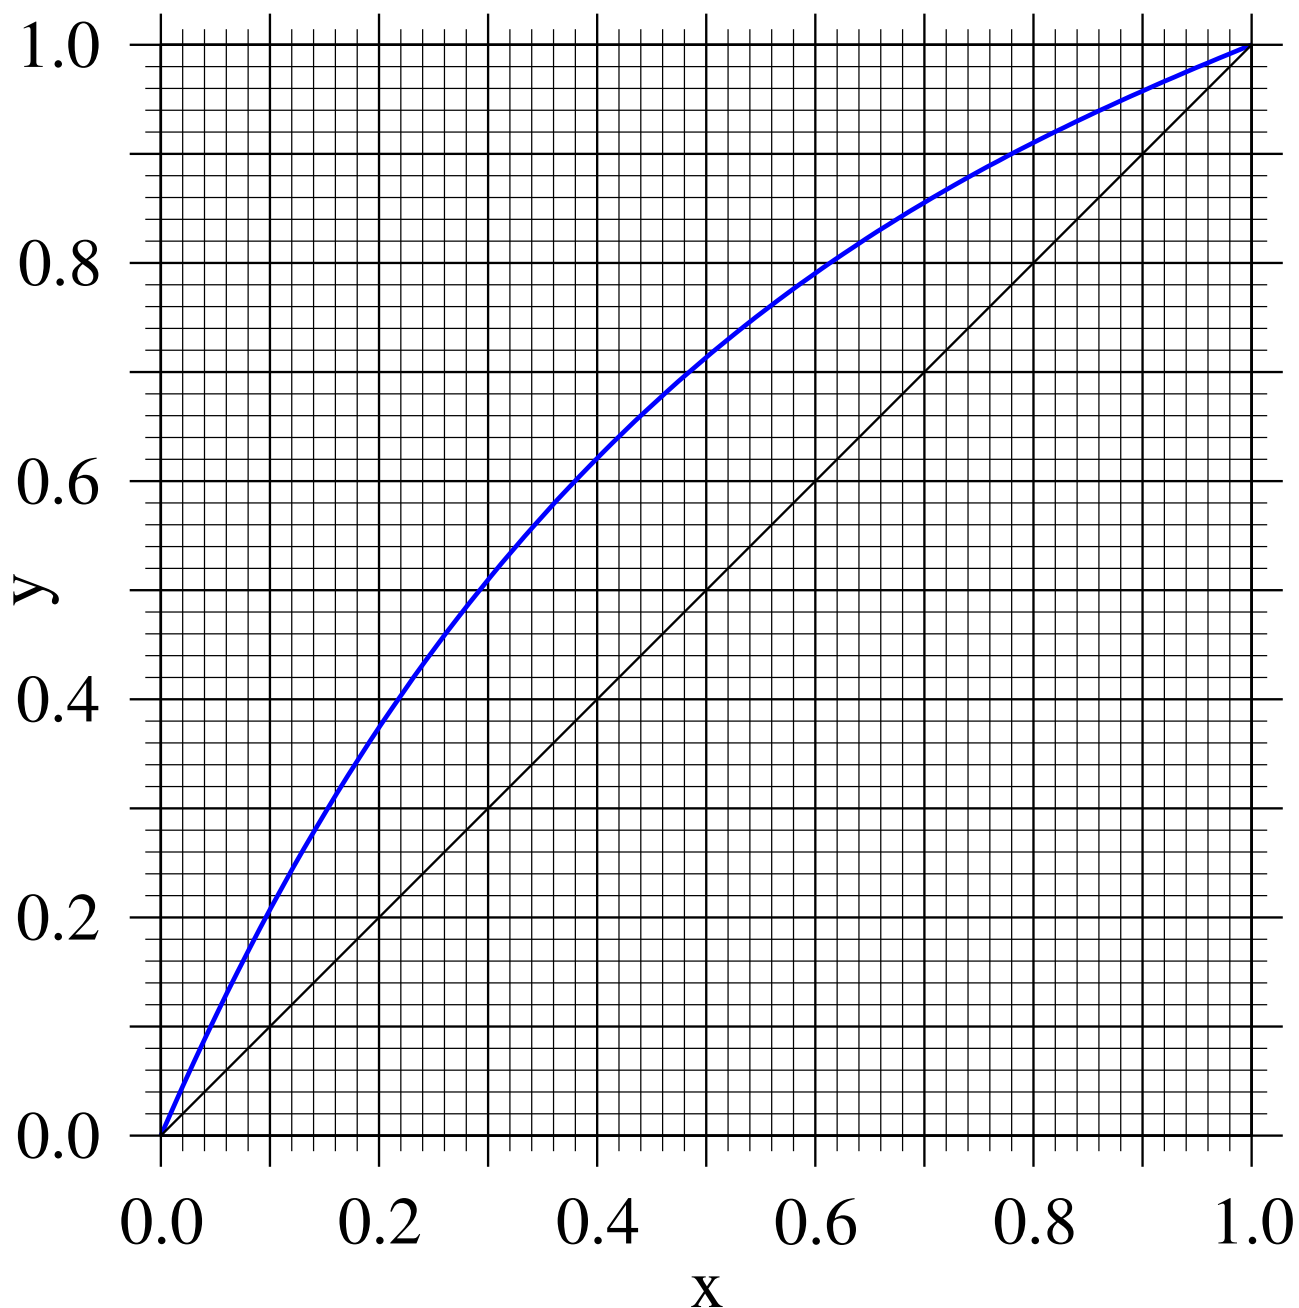
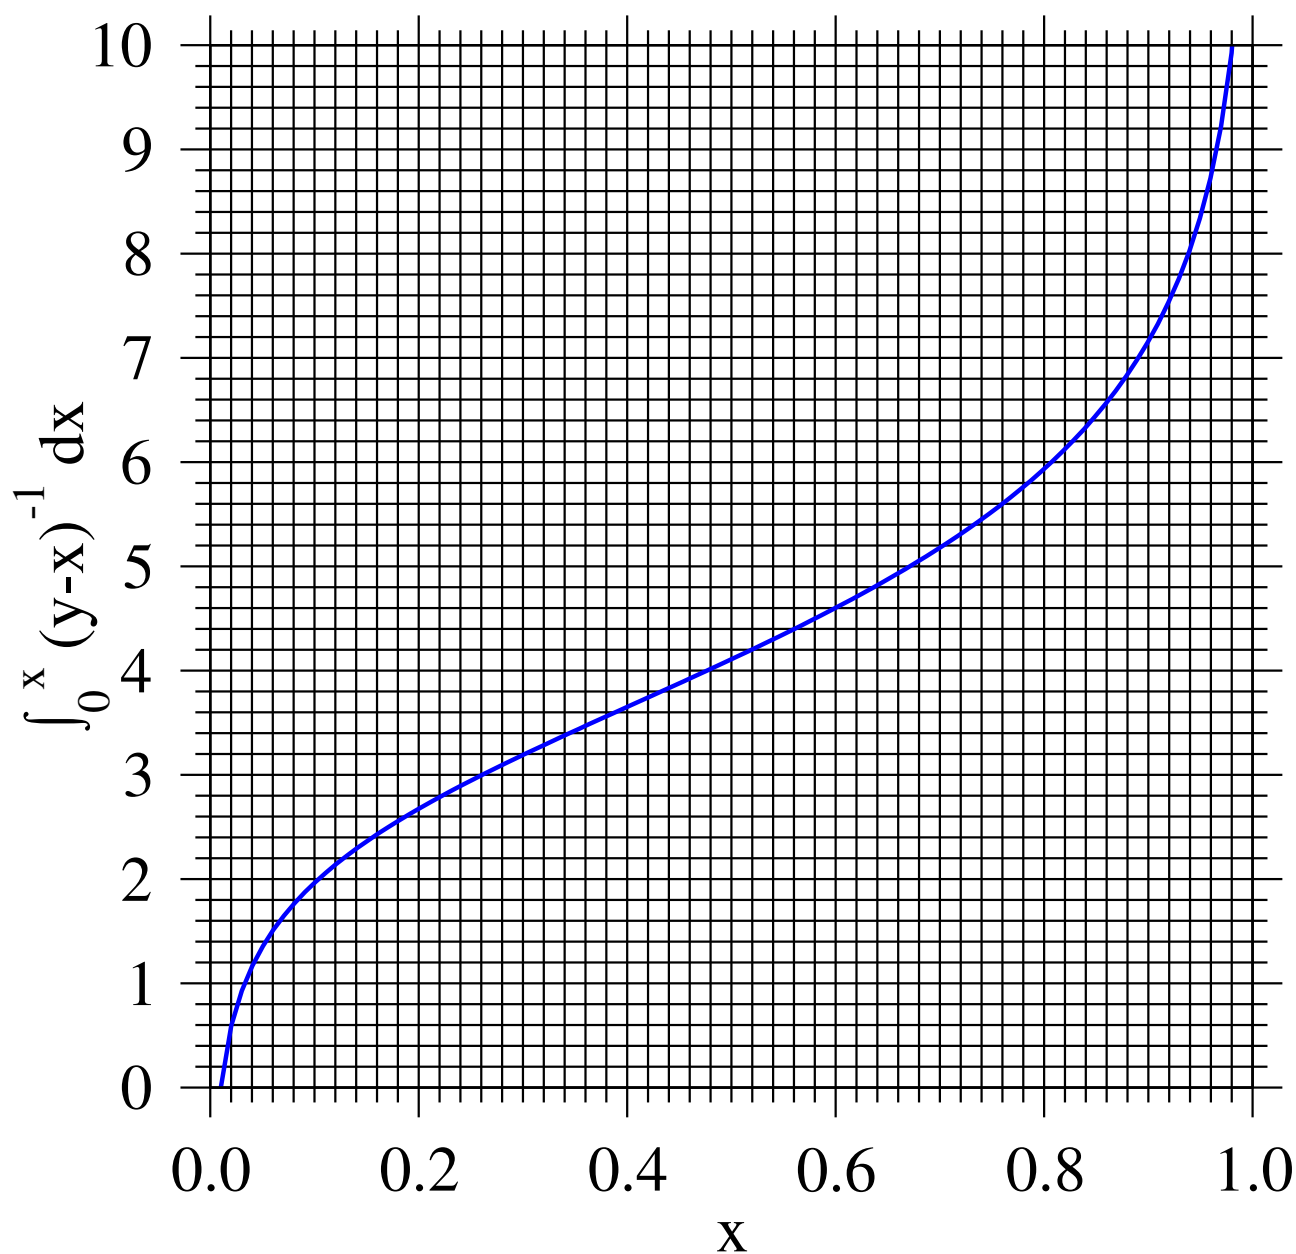

Figure 16: VLE data for benzene(x/y)-toluene mixtures. For use in Q. 5.19, 5.20, and 7.30.
Figure 17: Integrated VLE data for benzene(x/y)-toluene mixtures. For use in Q. 5.19 and 5.20.
- a) What is the outlet concentration of the vapour and liquid streams from a flash drum? The flash drum is operated so that only 20% of the feed stream is vapourised. x - y VLE data is available in Fig. 16. **[7 marks]**
- b) What is the average vapour concentration and the final liquid concentration if the same feed is supplied to a single-stage batch still instead? You should assume the same proportion of vapour is produced as in the flash drum. Integrated VLE data is available in Fig. 17 for this calculation. **[8 marks]**
A 10,000 kmol benzene-toluene mixture is sent for batch distillation at atmospheric pressure. Integrated VLE data is available in Fig. 17 and standard VLE data is available in Fig. 16.
Using Fig. 16, the liquid in equilibrium with a $y = 0.6$ mixture is $x = 0.38$. \checkmark